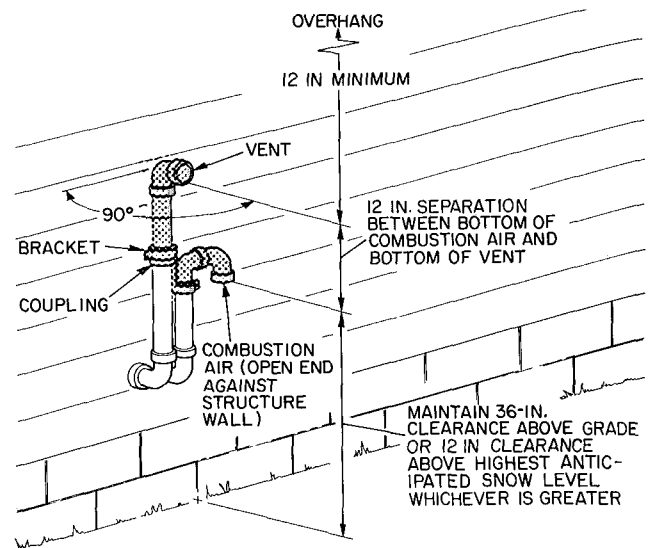
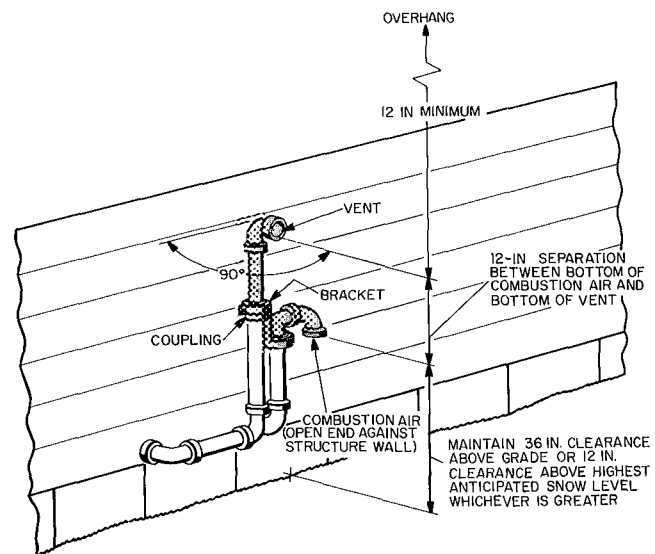

Fig. 4 — Sidewall Vent Termination Below Snow Level or Too Close to Grade (Preferred)
Fig. 5 — Sidewall Vent Termination Below Snow Level or Too Close to Grade (Option)
Install kit as follows when combustion-air and vent pipes exit through sidewall below snow level or too close to grade. (Fig. 4 and 5).
NOTE: The arrangement in Fig. 4 is preferred. The arrangement shown in Fig. 5 is an option for the vent pipe only.
4. Loosely install U-fitting and bracket as shown in Fig. 4. Position U-fitting so open end is against structure wall.
5. Loosely install vent-pipe assembly in coupling as shown in Fig 4 or 5.
6. Check required dimensions as shown in Fig. 4 or 5.
8. Install bracket as shown in Fig. 4 or 5.